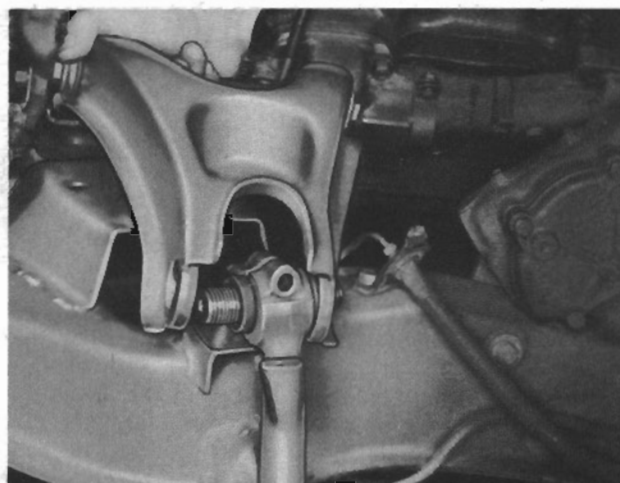

FIG. 13
Remove the bolts and nuts (1) which hold the inner shaft to the frame bracket. Be careful not to drop the nuts or washers in the front frame cross-member. Shift the upper control arm to one side, turn the arm and lift it off the end of the pin as shown in Fig. 13. Then remove the arm by slipping it off the other end of the pin.